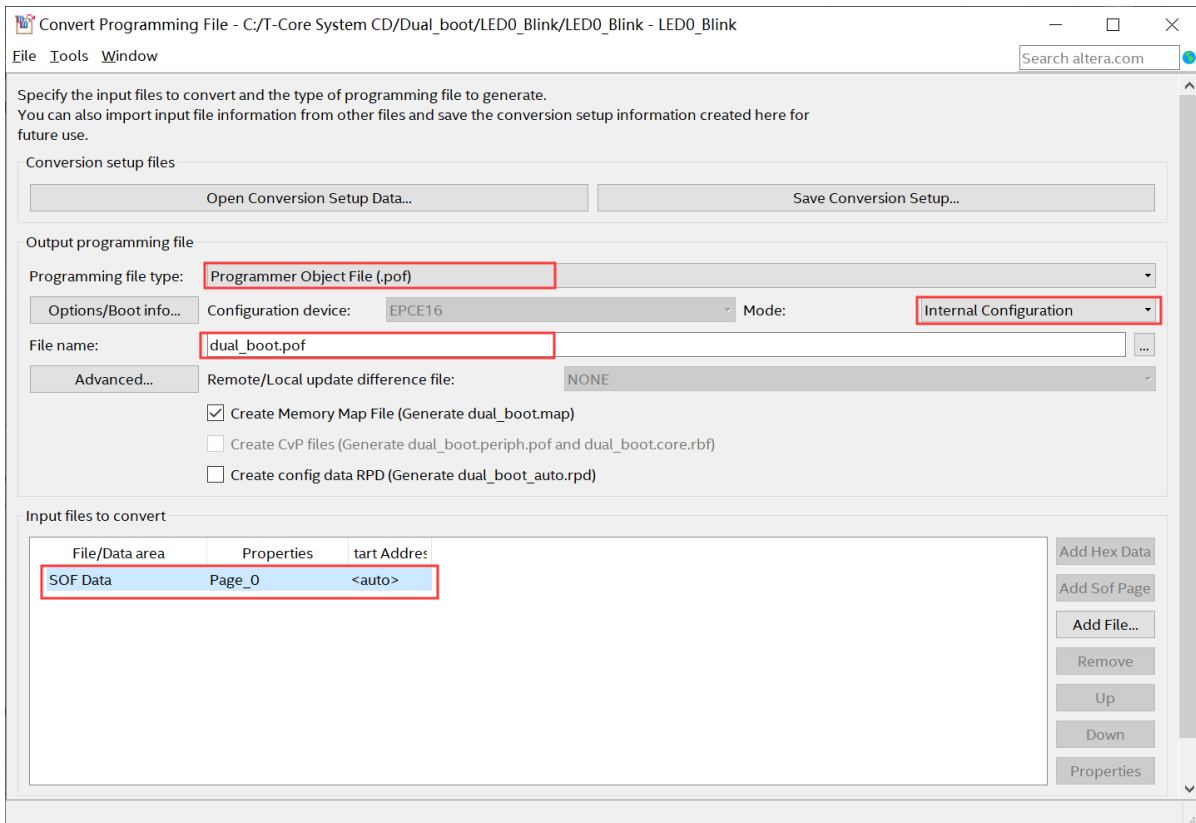

Figure 4-14 Dialog of Convert Programming Files and setting
5. Click on the **SOF data** in the section of **Input files to convert**, as shown in **Figure 4-14**.